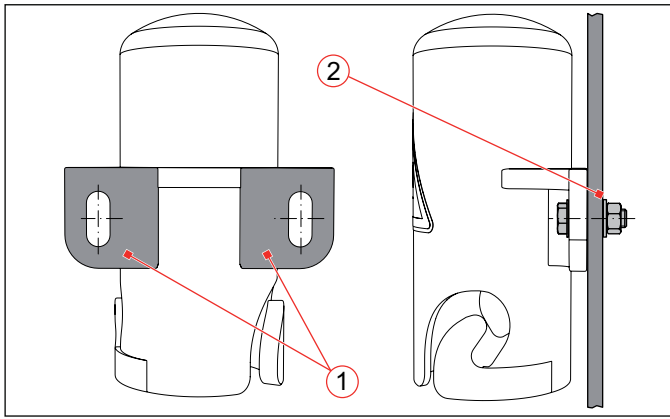

Fig. 15: Earthing surfaces on dummy receptacle (1) and mounting frame (2)
- ▶ Before the installation, make sure that the earthing surfaces on the dummy receptacle and on the mounting frame (**Fig. 15/1 and 2**) are free of varnish or any contamination.